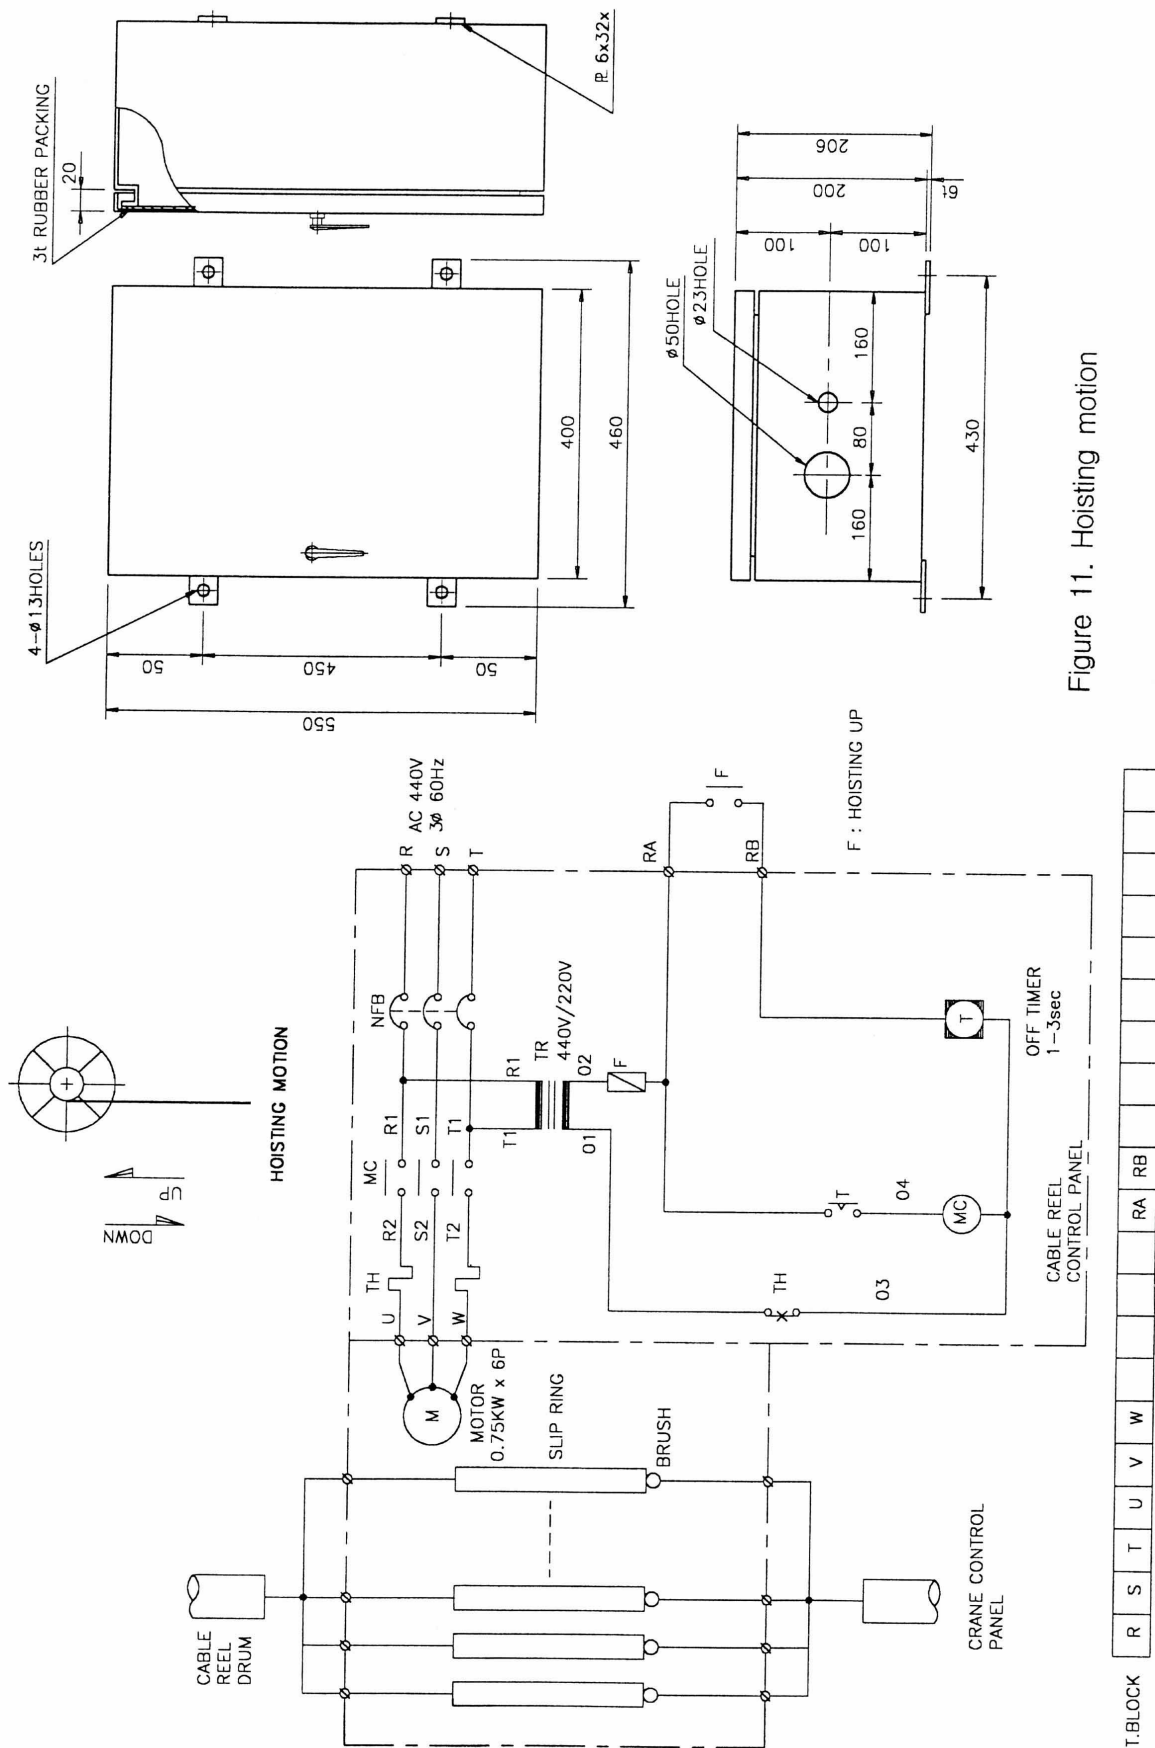

Figure 11. Hoisting motion
8. 2 HOISTING MOTION (Figure 11)